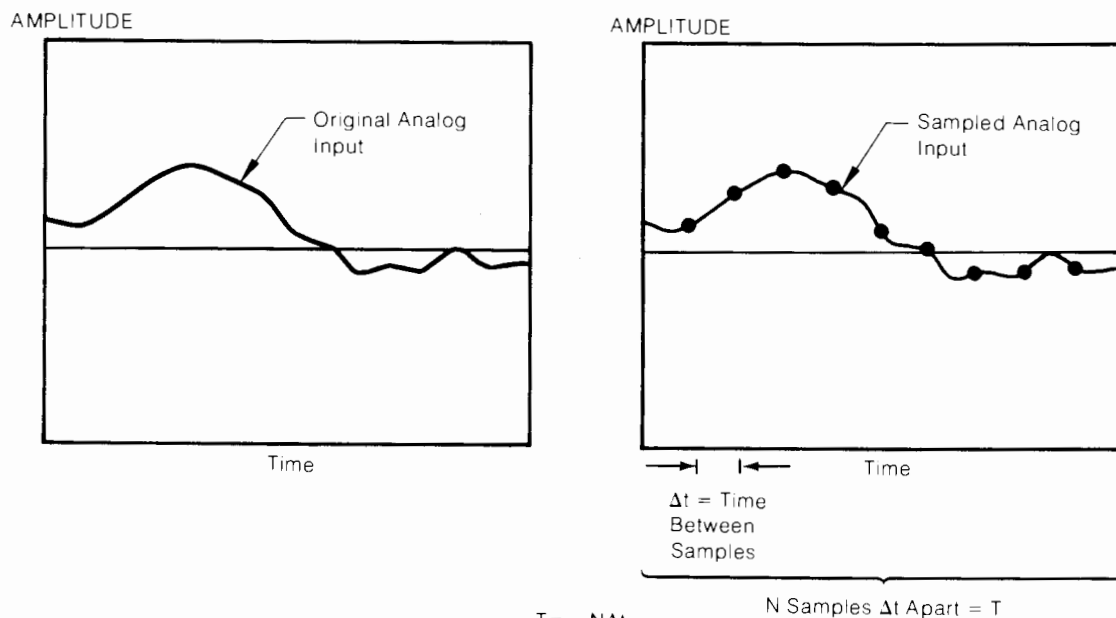

Fig. 1 TIME DOMAIN
Since we are concerned with the discrete form of the Fourier transform, we will define the parameters by examining an analog waveform. Through a sampling process (some A/D) we acquire enough information about the input waveform to mathematically recreate it, thus allowing mathematical processing of the signal. The following parameters that we deal with are shown in Fig. 1, along with their relationships. We may now process the data obtained by our sampling, in a fast efficient method due to its digital form.
- T - the total time of the sample record, also called "time window". From Fig. 1 it can be seen that: